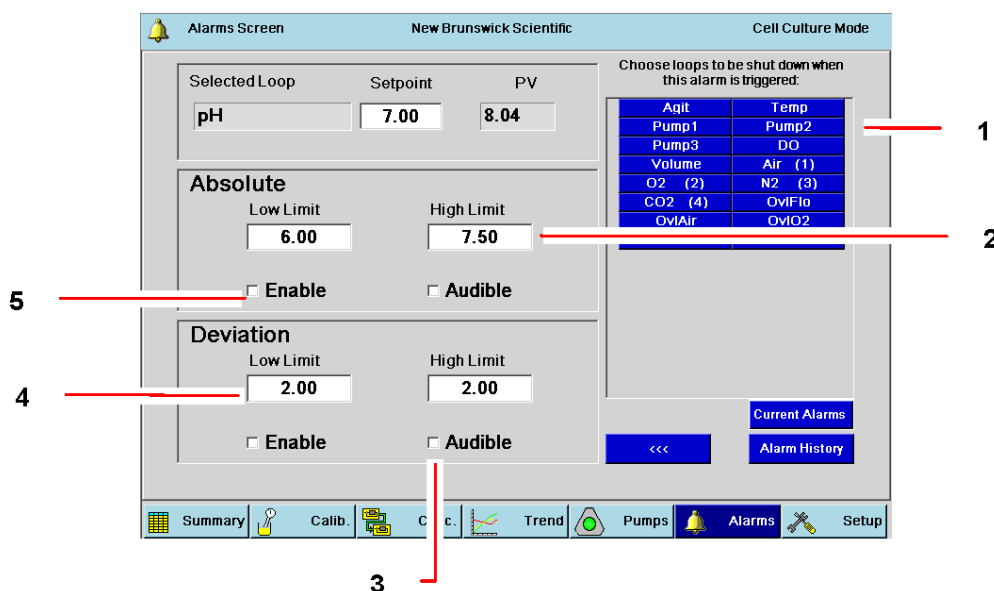

Fig. 65: Sample Loop Alarms Screen (pH)
- If you wish to set an Absolute alarm, enter the desired values in the Low Limit and High Limit edit boxes of the Absolute pane (see Fig. 65 on p. 79).